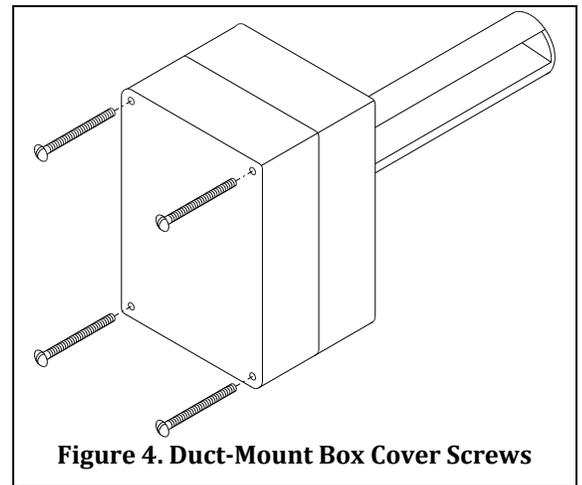

Figure 4. Duct-Mount Box Cover Screws
- For the duct-mount version, screw the box cover to the box, using the screws provided (Figure 4).